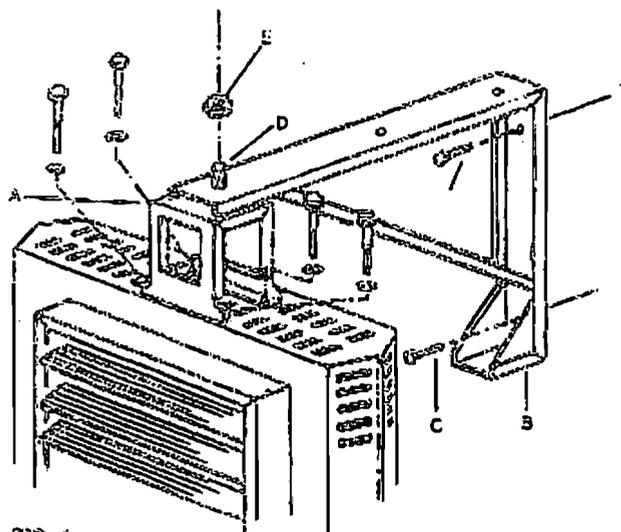
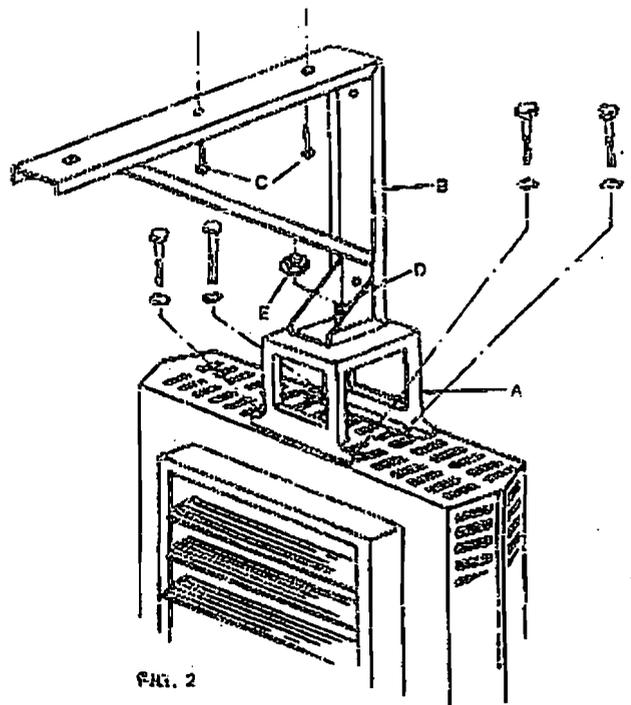

FIG. 1
FIG. 2
- 1) Swivel hanger brackets can be used to suspend unit heaters from either the wall (Fig. 1) or the ceiling (Fig. 2).